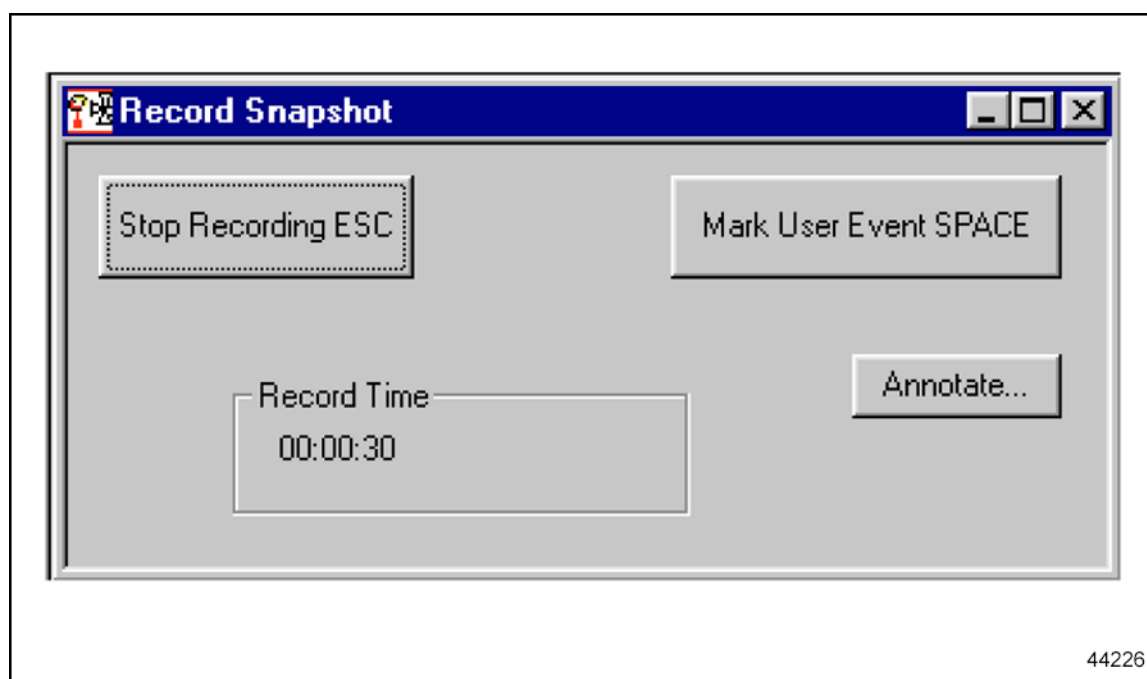

Figure 6-2 **Stop Recording ESC Box**
6. When recording of the desired data is completed, click once with the left mouse button on the **Stop Recording ESC** box. See Figure 6-2.